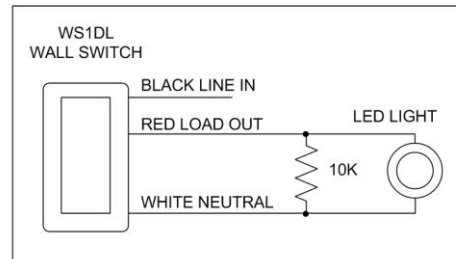

Figure 1: The 2 leads of the ILR-10K must be wired parallel with the LED light (between LOAD and NEUTRAL)
3. Install the ILR-10K between the two wires (Figure 1). The ILR-10K may be wired in either direction of the leads but it has to be **PARALLEL** with the LED light.